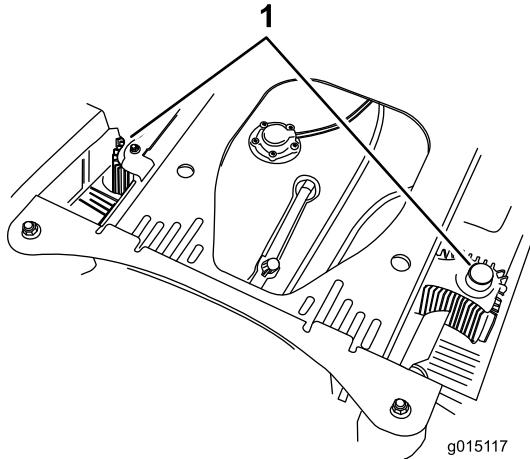

Figure 84
4. Clean the debris and grass from the hydraulic-unit shrouds (Figure 84).